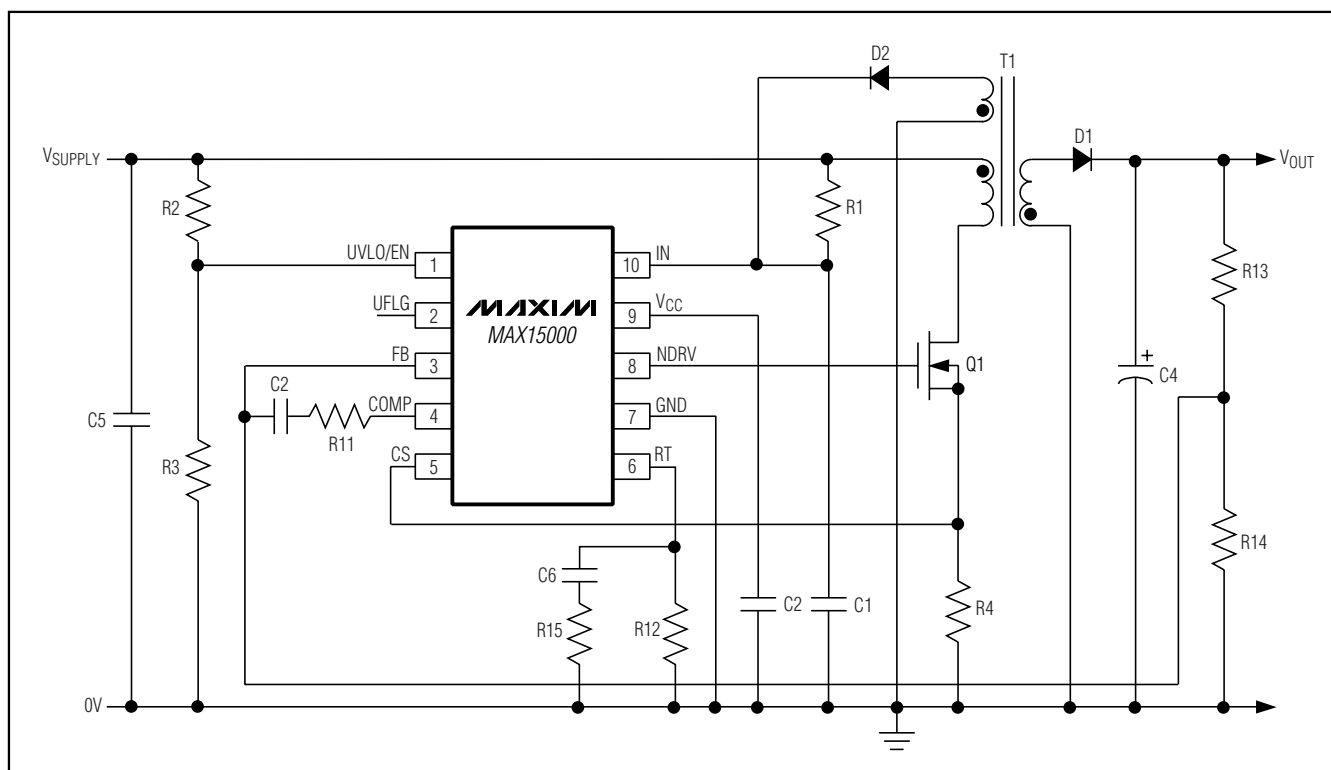
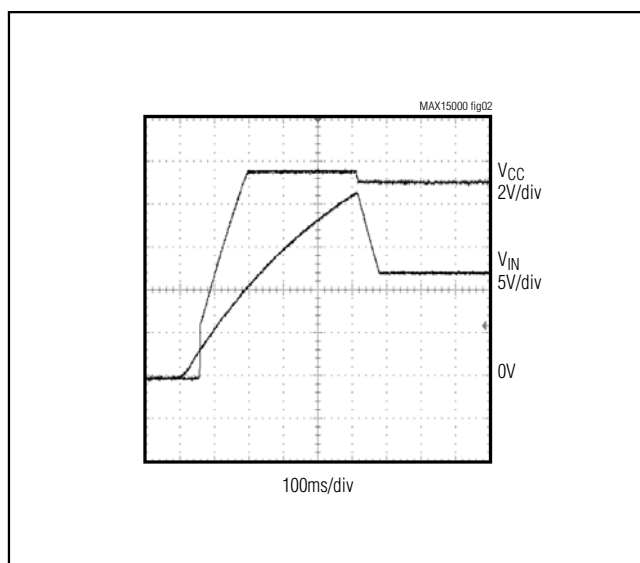

Figure 1. Nonisolated Power Supply with Programmable Input-Supply Start Voltage
Figure 2.  $V_{IN}$  and  $V_{CC}$  During Startup When Using the MAX15000 in Bootstrapped Mode (Figure 1)
**Note 2:** The MAX15000 is intended for use in universal input power supplies. The internal clamp circuit at IN is used to prevent the bootstrap capacitor (C1 in Figure 1) from charging to a voltage beyond the absolute maximum rating of the device when UVLO/EN is low (shutdown mode). Externally limit the maximum current to IN (hence to clamp) to 2mA maximum when UVLO/EN is low. Clamp currents higher than 2mA may result in a clamp voltage higher than 30V, thus exceeding the absolute maximum rating for IN. For the MAX15001, do not exceed the 24V maximum operating voltage of the device.
*Characteristics* table). The input is clamped when the devices are started with a bleed resistor (R1 in Figure 1) from a high input voltage and the UVLO/EN input is low. The clamp can safely sink up to 2mA current.
Power supplies designed with the MAX15000 use a high-value startup resistor R1 that charges a reservoir capacitor C1 (see Figure 1). During this initial period, while the voltage is less than the internal bootstrap UVLO threshold, the device typically consumes only 50µA of quiescent current. This low startup current and the large bootstrap UVLO hysteresis help to minimize the power dissipation across R1 even at the high end of the universal AC input voltage (265VAC).
Use this UVLO/EN input to program the input-supply start voltage. For example, a reasonable start voltage for a 36V to 72V telecom range is usually 34V. Calculate the resistor-divider values, R2 and R3 (see Figure 1) by using the following formulas:
For the MAX15000, the voltage at IN is normally derived from a tertiary winding of the transformer. However, at startup there is no energy being delivered through the transformer, hence, a special bootstrap sequence is required. Figure 2 shows the voltages at IN and  $V_{CC}$  during startup. Initially, both  $V_{IN}$  and  $V_{CC}$  are 0V. After the line voltage is applied, C1 charges through the startup resistor, R1, to an intermediate voltage. At this point, the internal regulator begins charging C2 (see Figure 1). Only 50μA of the current supplied through R1 is used by the MAX15000, the remaining input current charges C1 and C2. The charging of C2 stops when the  $V_{CC}$  voltage reaches approximately 9.5V, while the voltage across C1 continues rising until it reaches the wake-up level of 21.6V. Once  $V_{IN}$  exceeds the bootstrap UVLO threshold, NDRV begins switching the MOSFET and transfers energy to the secondary and tertiary outputs. If the voltage on the tertiary output builds to higher than 9.74V (the bootstrap UVLO lower
The MAX15000A/MAX15001A and MAX15000B/MAX15001B have programmable output switching frequencies from 25kHz to 625kHz and 12.5kHz to 625kHz, respectively. Use the following formulas to determine the appropriate value of the resistor  $R_{12}$  (see Figure 1) needed to generate the desired output switching frequency ( $f_{sw}$ ) at the NDRV output:
where  $R_{12}$  is the resistor connected from  $R_T$  to GND (see Figure 1).
Connect an RC network in parallel with  $R_{12}$  as shown in Figure 1. The RC network should consist of a 100nF capacitor  $C_6$  (for stability) in series with resistor  $R_{15}$  which serves to further minimize jitter. Use the following formula to determine the value of  $R_{15}$ :
The MAX15000/MAX15001 include an internal error amplifier to regulate the output voltage in the case of a nonisolated power supply (see Figure 1). For the circuit in Figure 1, calculate the output voltage using the following equation:
The current-sense resistor (R4 in Figure 1), connected between the source of the MOSFET and ground, sets the current limit. The current-limit comparator has a voltage trip level ( $V_{CS}$ ) of 1V. Use the following equation to calculate the value of R4:
The bypass capacitor at IN, C1, supplies current immediately after the MAX15000 wakes up (see Figure 1). The size of C1 and the connection configuration of the tertiary winding determine the number of cycles available for startup. Large values of C1 increase the startup time but also supply gate charge for more cycles during initial startup. If the value of C1 is too small,  $V_{IN}$  drops below 9.74V because NDRV does not have enough time to switch and build up sufficient voltage across the tertiary output which powers the device. The device goes back into UVLO and does not start. Use a low-leakage capacitor for C1 and C2.
The above startup method is applicable to a circuit similar to the one shown in Figure 1. In this circuit, the tertiary winding has the same phase as the output windings. Thus, the voltage on the tertiary winding at any given time is proportional to the output voltage and goes through the same soft-start period as the output voltage. The minimum discharge time of C1 from 21.6V to 9.74V must be greater than the soft-start time of 5.6ms.